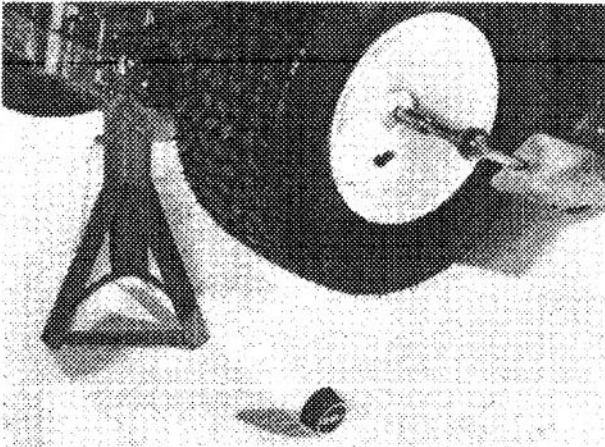

Figure 44
4. Remove capscrew securing wheel to axle (Fig. 44).